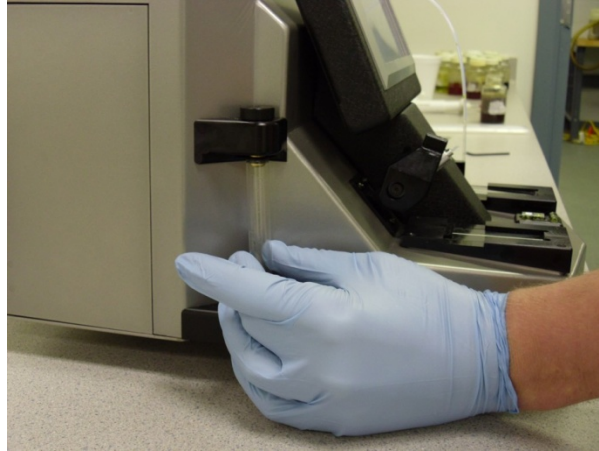

Figure 8.1 – Installing Sample Vial
10. Place the sample vial under the sample head assembly according to the station side of the magnet assembly in which the test will run (refer to Figure 8.1).